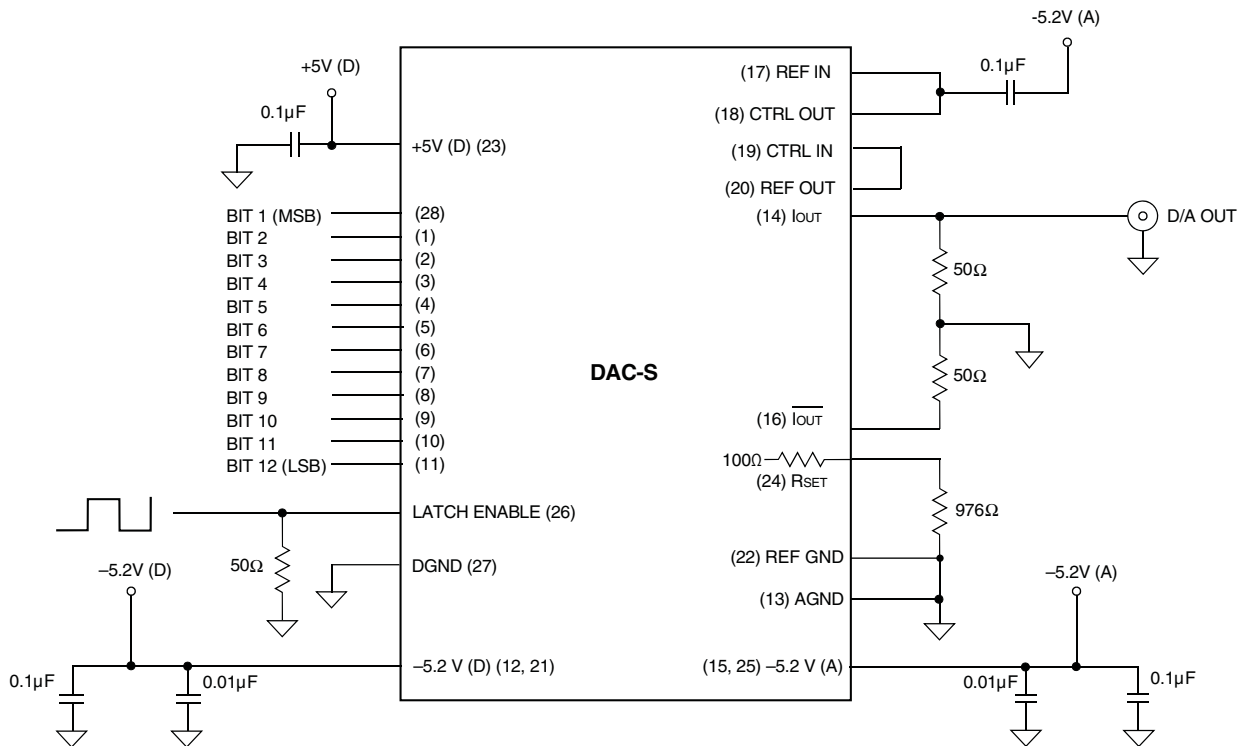

Figure 2. Typical Connection Diagram
The internal 12-bit register is updated on the rising edge of the Latch Enable (pin 26). To minimize reflections and noise at high clock speeds proper termination techniques should be used. In the PCB layout the clock runs should be kept as short as possible and have minimal loading. The PCB should employ a controlled characteristic line impedance ( $Z_0$ ) of 50 Ohms. A shunt termination resistor, equal to  $Z_0$ , should be placed as close to the CLOCK pin as possible, see Figure 2. The rise, fall and propagation delay times will be effected by the shunt termination resistor.
The sum of the two currents is always equal to the full scale current minus one LSB. See Table 1. The output can be converted to a voltage through a load resistor, typically 50 Ohms. Both current outputs should have the same load resistance value. See Figure 2. The output voltage generated is:
In order to reduce power supply noise separate -5.2V analog and digital power supplies should be used. The power supply lines should be bypassed with 0.1µF and 0.01µF ceramic capacitors placed as close to the -5.2V analog pins (15, 25) and digital pins (12, 21) as possible. The analog and digital power supply ground returns should be connected at one point as close to the power source as possible. The +5V supply pin (23) should be bypassed with a 0.1µF ceramic capacitor connected as close to the pin as possible. See Figure 2.
The internal reference is a -1.23V, typical, bandgap voltage reference. The internal reference is connected to Reference OUT (REF OUT, pin 20) and the internal control Amplifier (CTRL IN, pin 19). The control Amplifier OUT (CTRL OUT, pin 18) should be connected to Reference IN (REF IN, pin 17) and to -5.2V (pin 15) Analog Supply through a 0.1µF ceramic capacitor (as shown in figure 2) in order to improve the settling time This reduces switching noise and improves output settling time. The Full Scale Output Current,  $\overline{I_{OUT}}$  (pin 14) and  $I_{OUT}$  (pin 16), is controlled by the REF OUT (pin 20) voltage and the RSET (pin 24) resistor through the following equation: